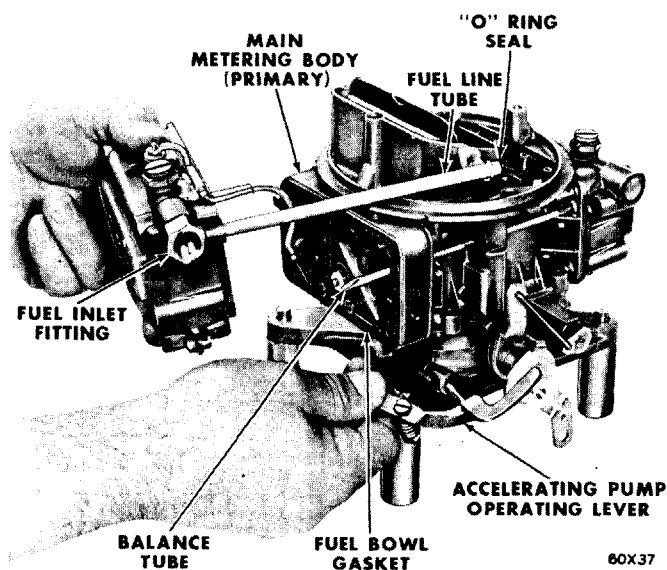
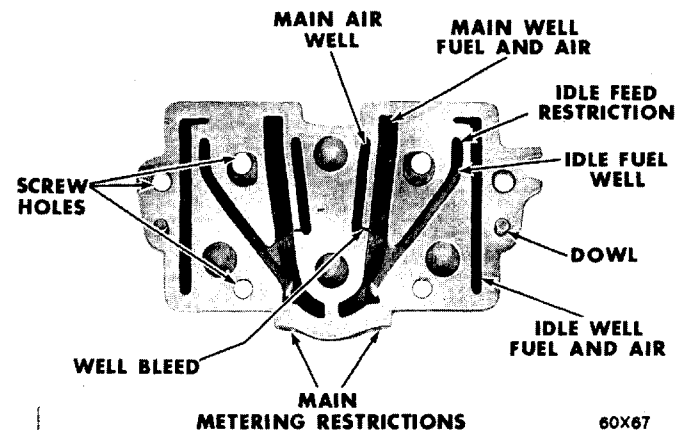

Fig. 5—Removing or Installing Pump Lever and Fuel Bowl
Fig. 6—Secondary Metering Body Identification
(1) Install four elevating legs, Tool T109-287S in the mounting flange holes in the throttle body. These legs are used to protect the throttle valves from damage and to provide a suitable base for working.
(2) Remove the accelerator pump operating lever assembly, then remove adjusting nut, spring and bolt from the lever, as shown in Figure 5.
(3) Remove the primary fuel bowl and metering body by sliding the assembly straight off the balance tube, as shown in Figure 5.
(4) Remove the fuel tube and "O" rings.
(5) Remove the secondary fuel bowl.
(6) Remove the secondary metering body and plate, see Figure 6.